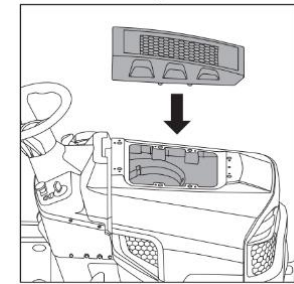

Fig. 2A
1. Align the knobs of the hood air intake with the designated holes in the hood (Fig. 2A)